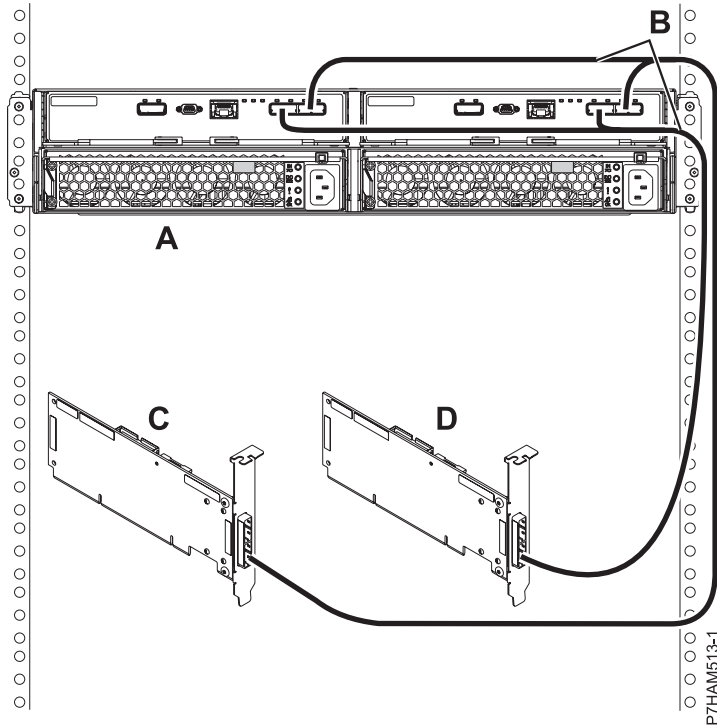

Figure 40. Mode 2 connection of one 5887 disk drive enclosure by using YO cables to two independent SAS adapters
17. Perform the mode 2 connection of one enclosure (A) by using YO cables (B) to two independent SAS adapters. See Figure 40 on page 40.